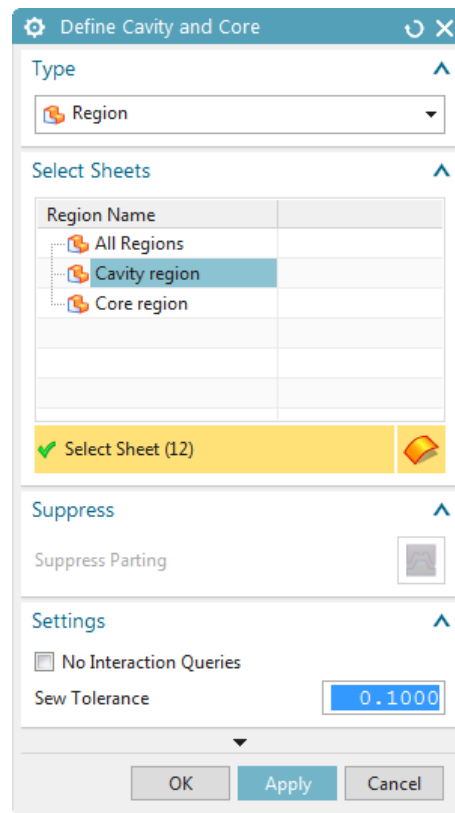

Figure 16-109 The Define Cavity and Core dialog box
1. Choose the **Define Cavity and Core** tool from the **Parting Tools** gallery of the **Mold Wizard** tab; the **Define Cavity and Core** dialog box is displayed, refer to Figure 16-109.